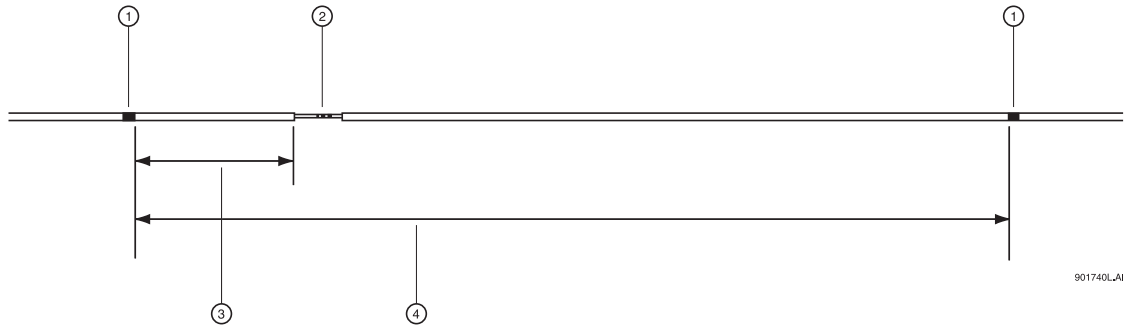

Figure 4.9 Marking Capillary Window Position
1. Referring to Figure 4.9, measure 11 cm from capillary window to the outlet end.
4. Measure the overall length plus 5 cm as shown in Figure 4.9.